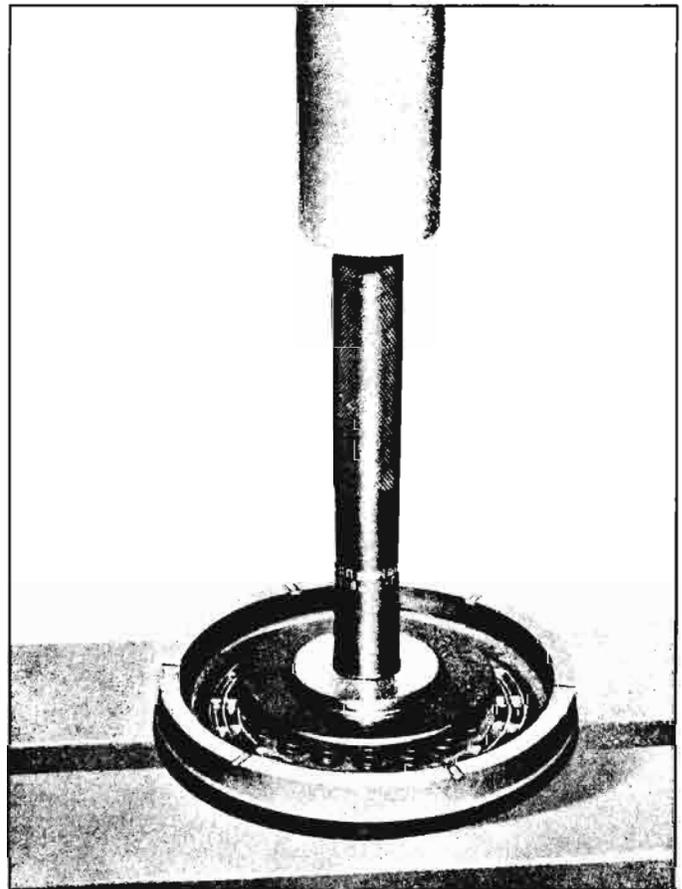

Fig. 6E-42—Installing Rear Pump Body Bushing with J-8360-4 and Handle J-7079-2
- Install new bushing as illustrated in Figure 6E-42, using J-8360-4.
NOTE: All number references in this procedure are to Figure 6E-40.